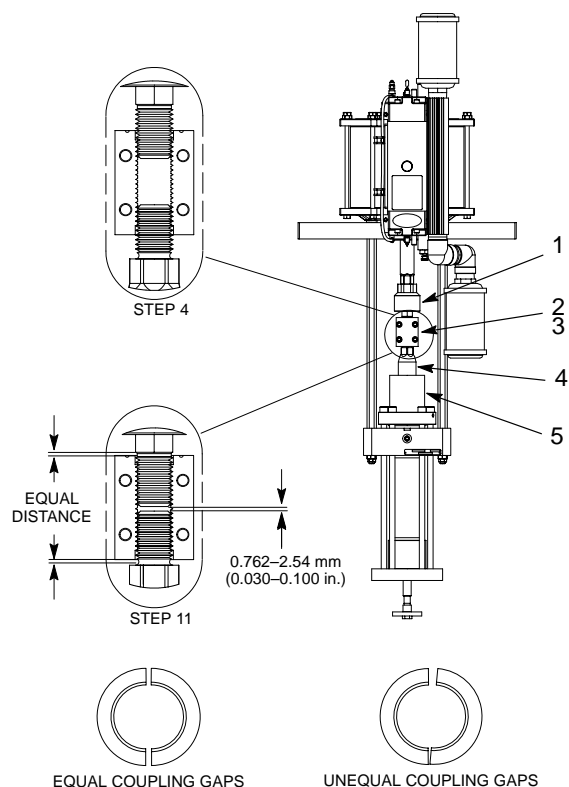

Figure 3 Installing the Coupling Halves
OFF	<p>NOTE: The coupling halves are a matched set. Each half is stamped with the same serial number.</p> <ol style="list-style-type: none"> See Figure 3. Make sure that the grooved end of each half is facing upward. Position both halves (2) over coupling shaft (1) and plunger rod (4) as shown. Make sure that three threads of coupling shaft and plunger rod are engaged in coupling. Secure coupling halves with coupling screws (3). Make sure that bleed valve on pump body is open and not plugged.